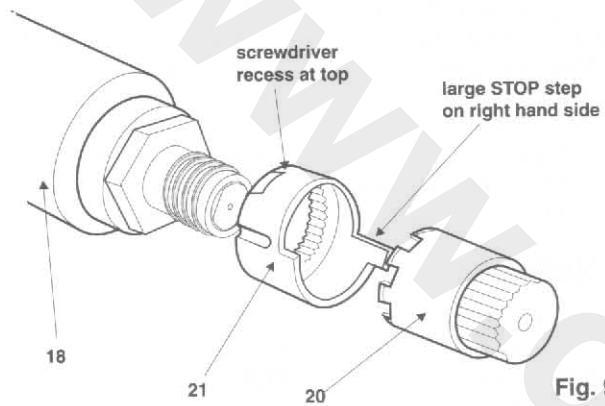

Fig. 9
2.3 Place the Trevi Boost body in the orientation required and refit the temperature handle stop (21) so that the large stop step is to the right hand side and the appropriate screwdriver recess is at the top. Ensure the temperature handle stop (21) is pushed fully on to the hex, (see Fig. 9).